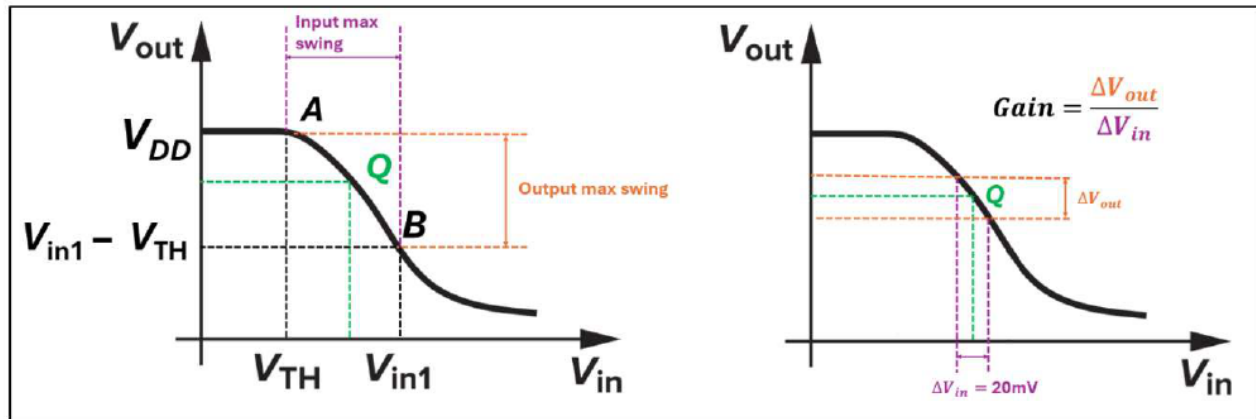

Figure 6. Method calculating Gain, Input max-swing and Output max-swing
- Method to calculate DC Gain, input max swing and output max swing as shown in **Figure 6**.